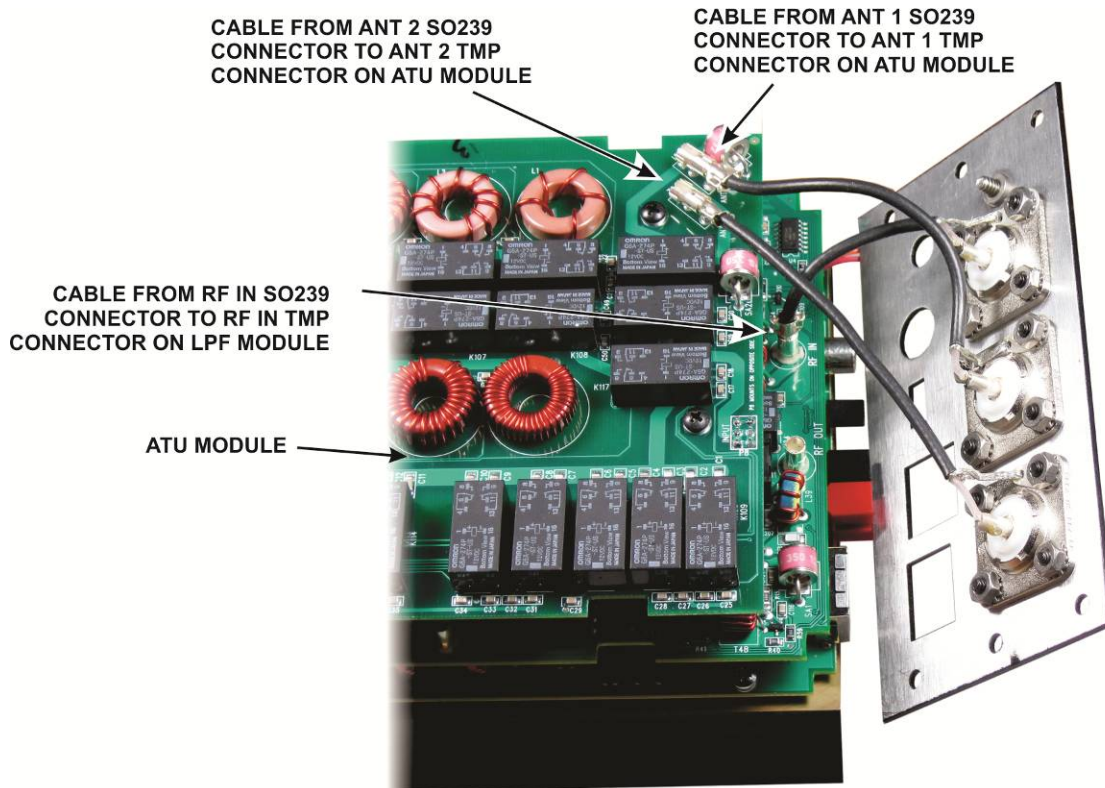

Figure 15. Connecting the Rear Panel Cables with ATU Installed.
- If you have the optional KXAT3 ATU, see Figure 15.